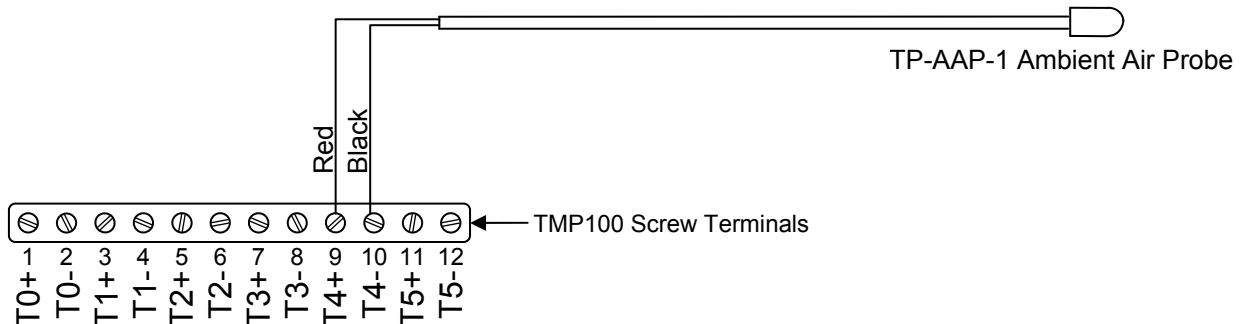

Figure 1 – Wiring Diagram
Please follow these instructions to connect the TP-AAP-1 ambient air temperature probe to the NMEA 2000® network via a Maretron TMP100 Temperature Module. The wiring diagram appears in Figure 1 below. The diagram shows a connection to channel #4, but connections to other channels are similar. Please note that the TP-AAP-1 may be connected only to channels #2, #3, #4, and #5. It may not be connected to channels #0 and #1.
2. The TP-AAP-1 cable contains one red and one black wire. Connect the black wire to the appropriate Tx-terminal on the TMP100 as shown in Figure 1 below.
3. Connect the red wire to the appropriate Tx+ terminal on the TMP100 as shown in Figure 1 below.